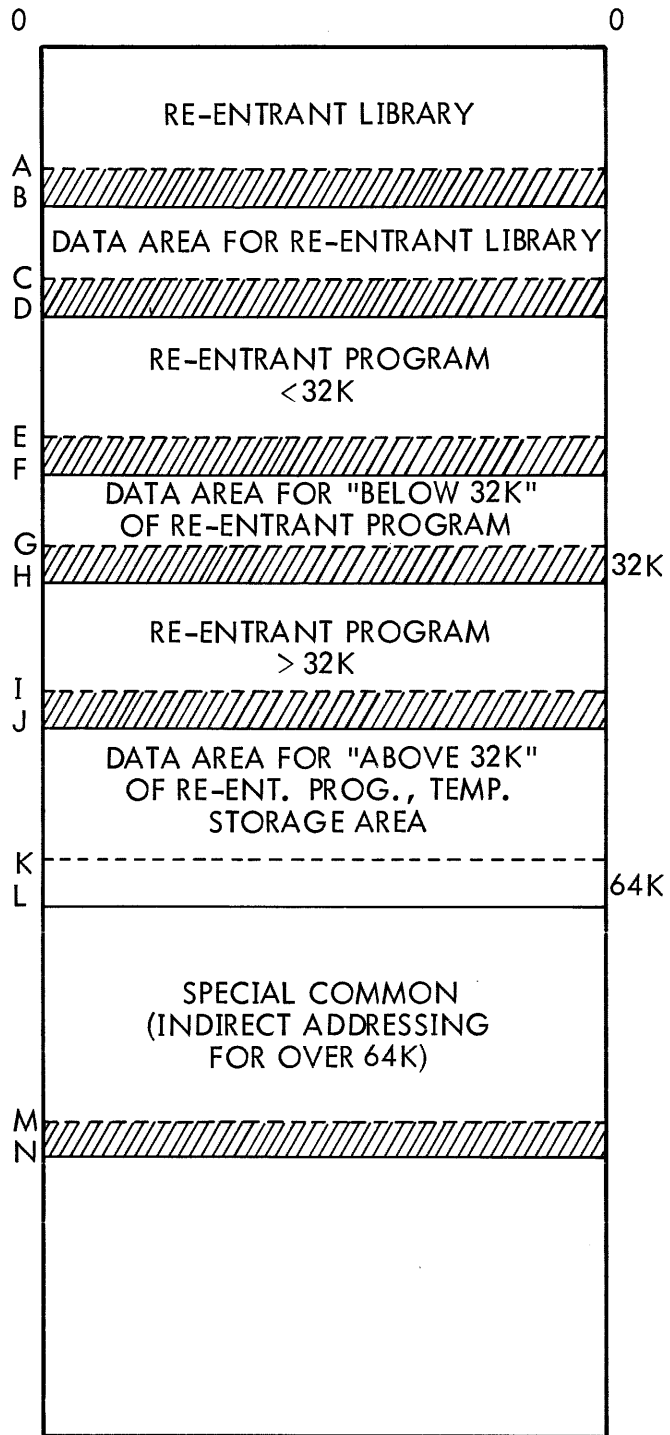
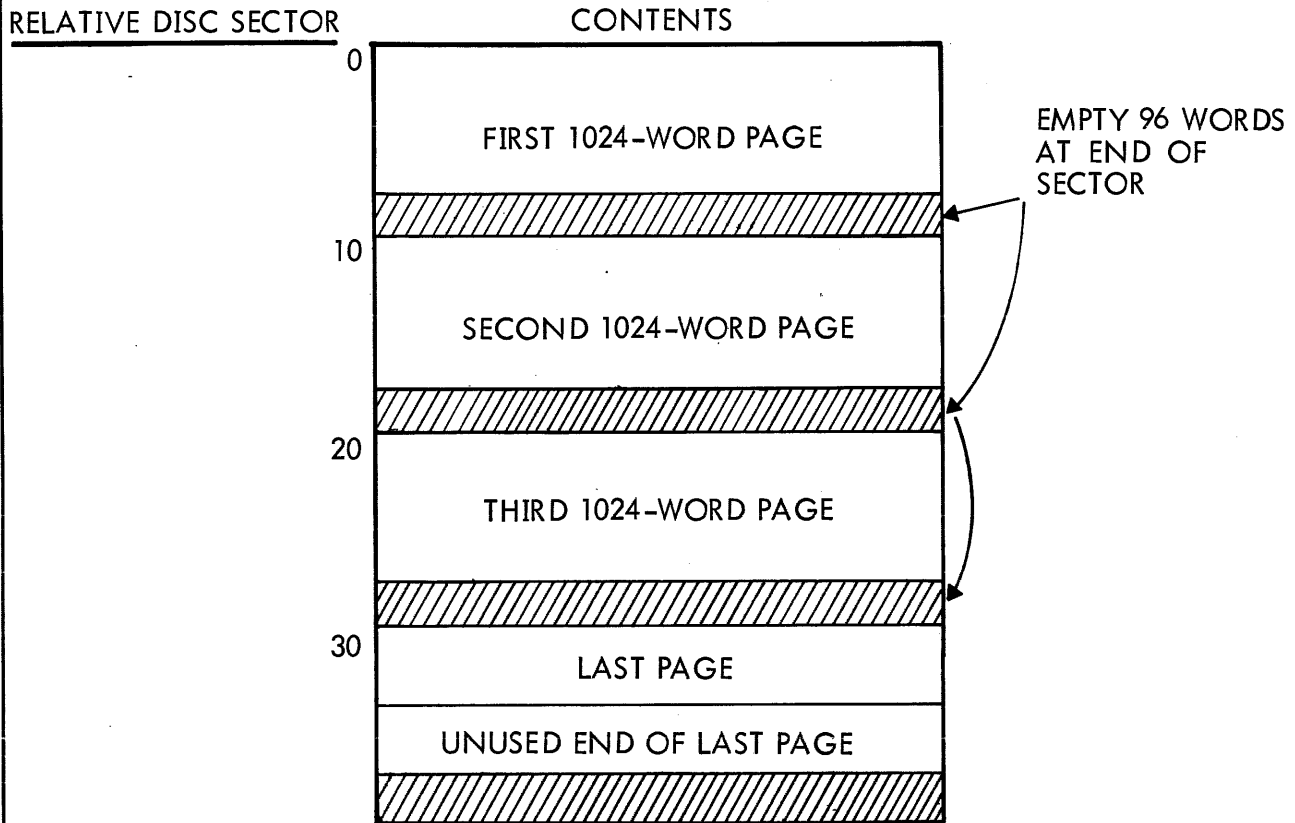

Figure 1-2. Logical Address Space of a User Program
Figure 1-3. Sample Non-reentrant User Program
The second format output by the VULCANIZER is for programs that execute in the user space. This includes control point programs, interactive programs and real time programs (both resident and non-resident). Re-entrant libraries, which are generated by the VULCANIZER, also have this format. The VULCANIZER outputs the load module in "page format". This consists of blocks of 1024 words being written to the disc area. Each block occupies 10 sectors of disc area. No relocation bits are required since the program load module is absolute within its address space. The program is subdivided into different types of pages; re-entrant and non-re-entrant. Figure 1-2 shows the general case of a program's logical address space layout. Every Vulcanized program may, potentially, contain one re-entrant library. If this option is utilized the first B logical pages (Figure 1-2) of the program will be devoted to the re-entrant library. Since the library generally will not completely fill an even number of 1024 word pages, there will be a wastage of B-A (Figure 1-2) words where B-A is less than 1024. The re-entrancy of re-entrant libraries is achieved by having one or more non-reentrant data pages associated with the re-entrant library. These pages (D-B in size) follow the re-entrant library in the
logical address space of the program. A fraction of a page (D-C) wastage occurs if the program to be Vulcanized is re-entrant. The re-entrant program must start on a page boundary (D) and, if greater than 32K in size, is Vulcanized in two parts; below 32K and above 32K. The below 32K part of the program has its own data area to achieve re-entrancy (G-F) and to not require 16 bits logical addressing. The second part of the re-entrant program begins at the 32K boundary (H). A data area for the above 32K part of the program starts at page J and this data area also will include the temporary storage area space for monitor routine re-entrancy. The space above the temporary storage area to either the end of the logical address space of the program or the 64K boundary will be used for dynamic buffer space. This buffer space is either asked for directly by the user (via the \$DCM service) or indirectly via blocked disc areas. Any areas defined as special common are Vulcanized above 64K in the program's logical address space and will be accessed from the program via indirect addressing. Figure 1-2 is the general case and, in the case of fractionation of the logical address space, is the worst case. When the program body is not re-entrant, the space C through J disappears and the program body is contained within the J through K area. If the program is greater than 32K, a break will still occur at the 32K boundary since individual routines may not be Vulcanized across this boundary. Sample disc area layouts for user space programs are shown in Figures 1-3 and 1-4.